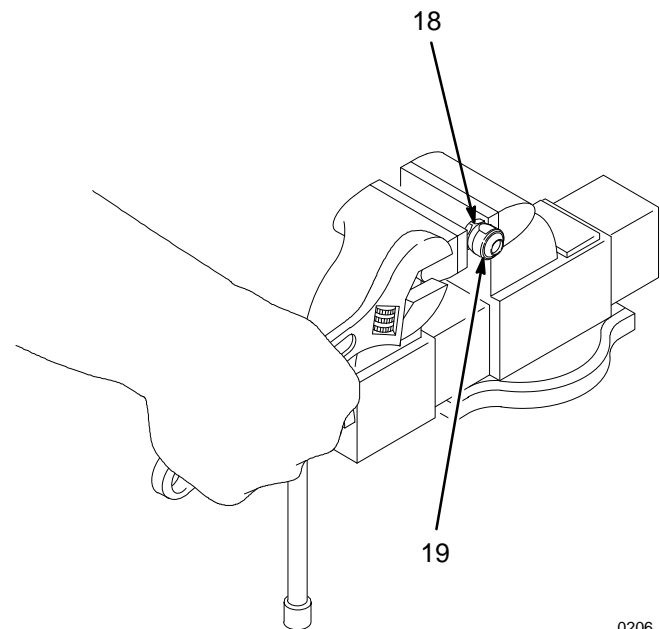

Fig. 7
14. To disassemble the intake check valve (DD), place the nut (18) in a vise and unscrew the intake valve body (19), using a 28 mm wrench. See Fig. 7. Remove the seals (42, 20) from the nut and from the valve body; always replace them with new ones. Inspect the mating surfaces of the intake valve body (19) and seat (22) for wear, scoring, or other damage.
**NOTE:** The seal (42) is press-fit in the nut (18) and may require cutting to ease removal.